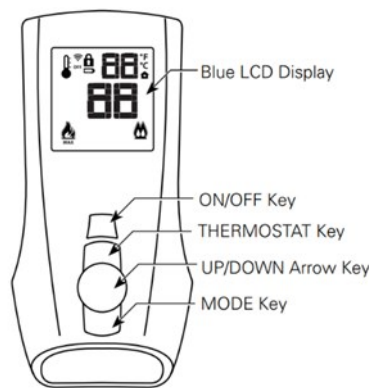
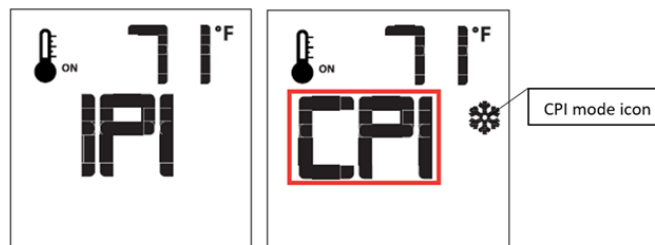

FIGURE 9
FIGURE 13
1. Insert the three (3) provided AAA batteries into the battery bay in the remote. Correctly align polarity (+/-).
3. Push the "ON" button on the remote (**Figure 9**). The control module will beep four (4) times to indicate acceptance of the remote's command. The system is now synchronized.
With the system in the “OFF” position, press the Thermostat Key and the Mode Key at the same time (Figure 9). Look at the LCD screen on the Remote to verify that a C or F is visible to the right of the Room Temperature display (Figure 11).
The default setting is set to IPI. With the system in OFF position press the Mode Key (Figure 9) to index to the CPI mode icon. Pressing the UP Arrow Key will return to IPI. A single “beep” will confirm the reception of the command (Figure 13).